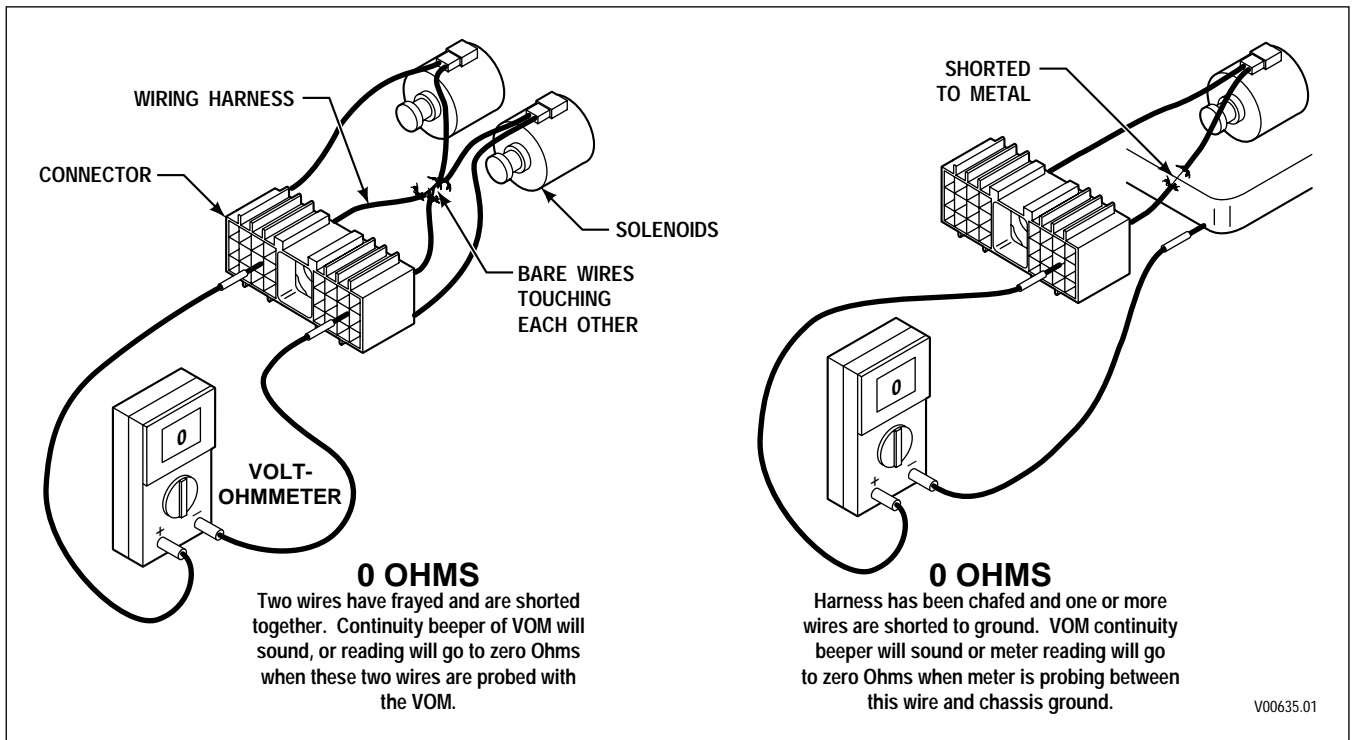

Figure 4-5. Short Between Wires And To Ground
- b. If the resistance check is good, check the harness for shorts between wires and to ground by performing the following (refer to Figure 4-5):
- (1) At the transmission connector, touch one probe of the VOM to one wire of the circuit being tested and touch the other probe to each terminal in the connector and to chassis ground and to the transmission main housing. Do this for both wires in the circuit being tested.
- (2) If the VOM shows zero to low resistance, or the continuity beeper sounds, there is a short between the two points being probed, wire-to-wire or wire-to-ground. An indication of a short may be caused by a splice to the wire being checked. Check the wiring diagram in Appendix J for splice locations. If the short is not a splice, then isolate and repair the short.